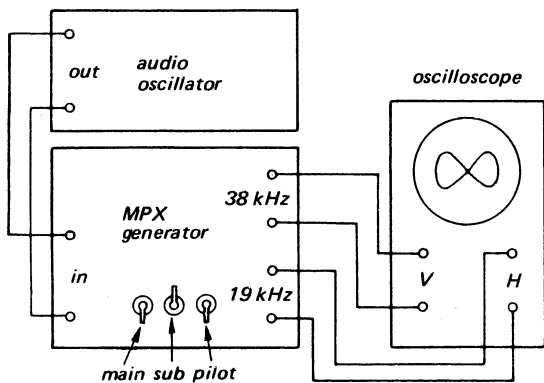

Fig. 3-7 MPX generator preadjustment
1. With the equipment connected as shown in Fig. 3-7, set the MPX and audio signal-generator's controls as follows: